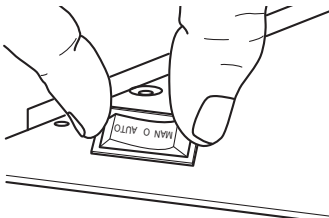

Figure 16 - Installing Rocker Switch (PC Series Shown)
6. Feed the harness back through the opening and push the rocker switch housing into the mounting hole until tightly seated flush to the panel (see Figure 16).